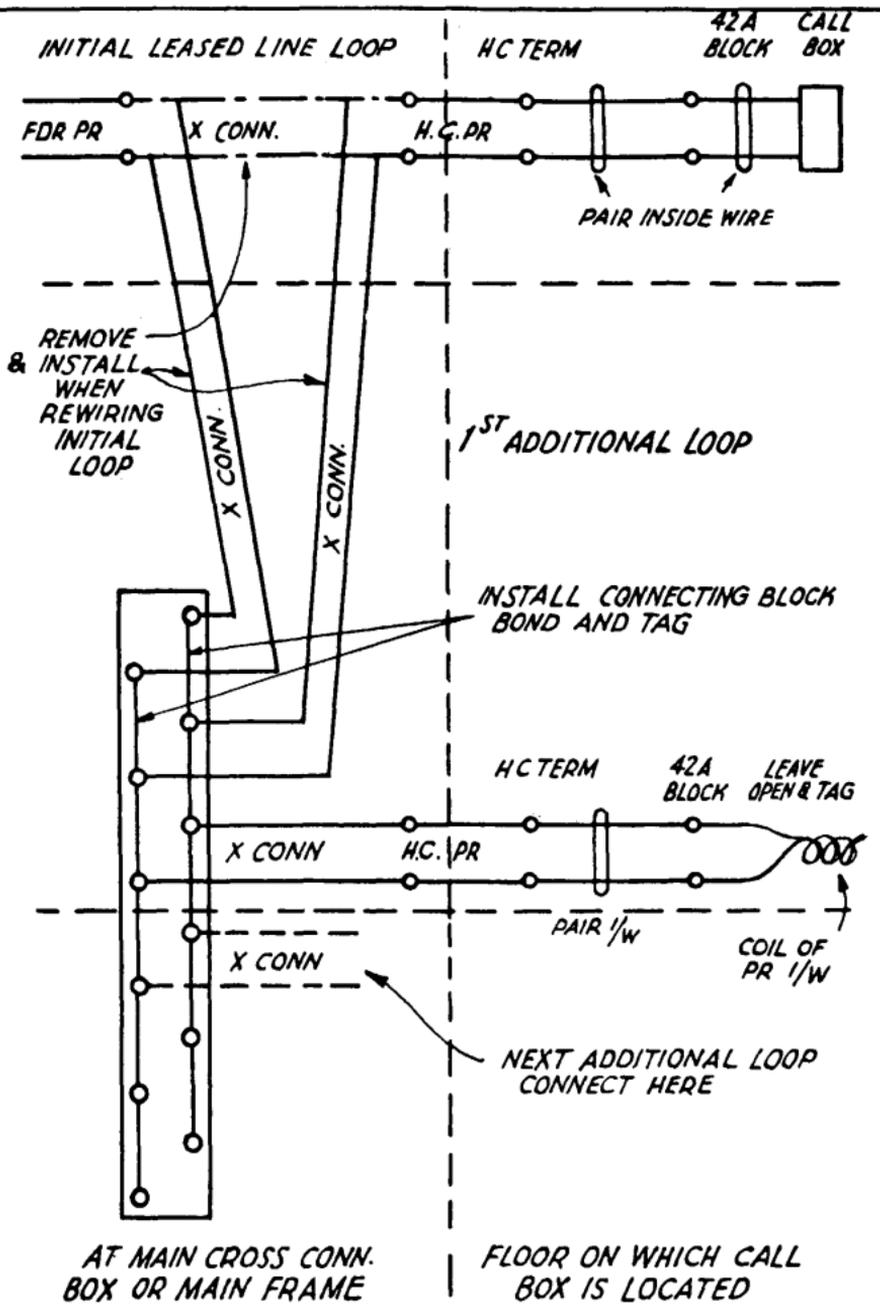

FIGURE 1 SEE APPENDUM
- (a) Bond a connecting block as indicated in Fig. 1 and install the block in the main cross-connection box or on the main frame. This block is to be used as a bunching block. A six pair block should ordinarily be used but a block of greater capacity may be installed if justified by probable growth.
- (c) Rewire the initial loop of the leased line to the bunching block as indicated in Figure 1.
- (d) Extend the additional loop by running a cross connection from the next spare pair on the bunching block to the selected house cable pair (Fig. 1) and proceed as outlined in Paragraph 2.05 (b) to (f).
- (c) Rewire the initial loop to the bunching block as indicated in Figure 1.